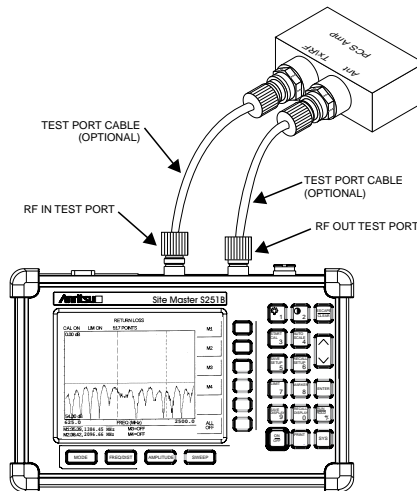

Figure 4-20. Amplifier Gain Measurement Setup
**Step 13.** Connect the amplifier to the test port extension cables as shown in Figure 4-20.